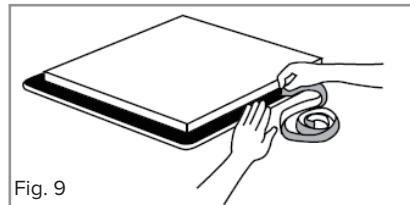

Fig. 9
2. Position the hob seal, as shown in Fig. 9, ensuring that the ends meet without overlapping. Do not use silicone type sealant.